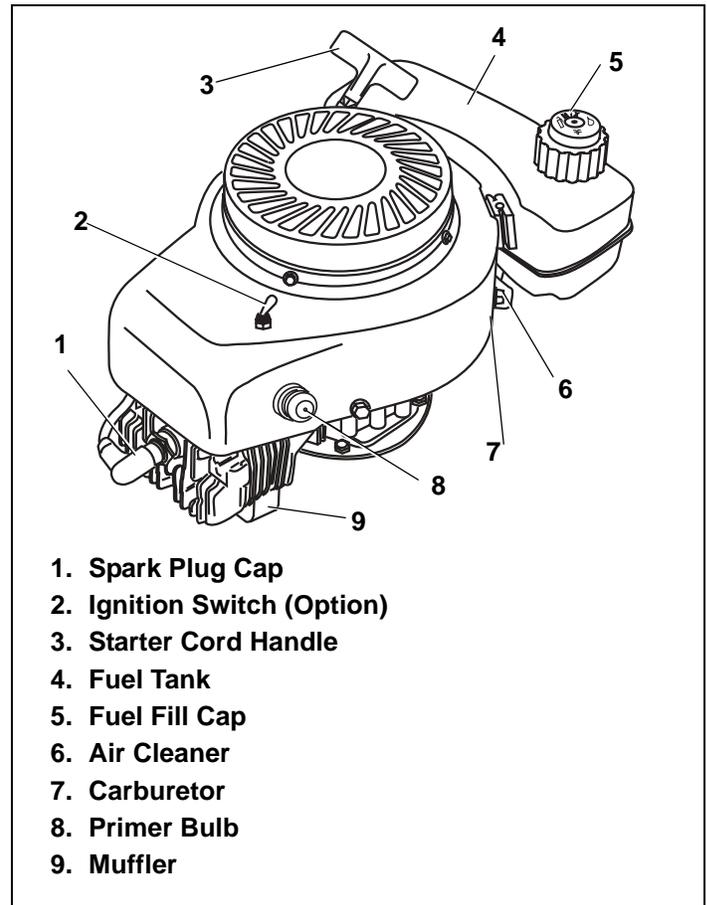

Figure 5. Engine Model TV085XA
3. Clean area around fuel fill cap and remove fuel fill cap. See Figure 5.